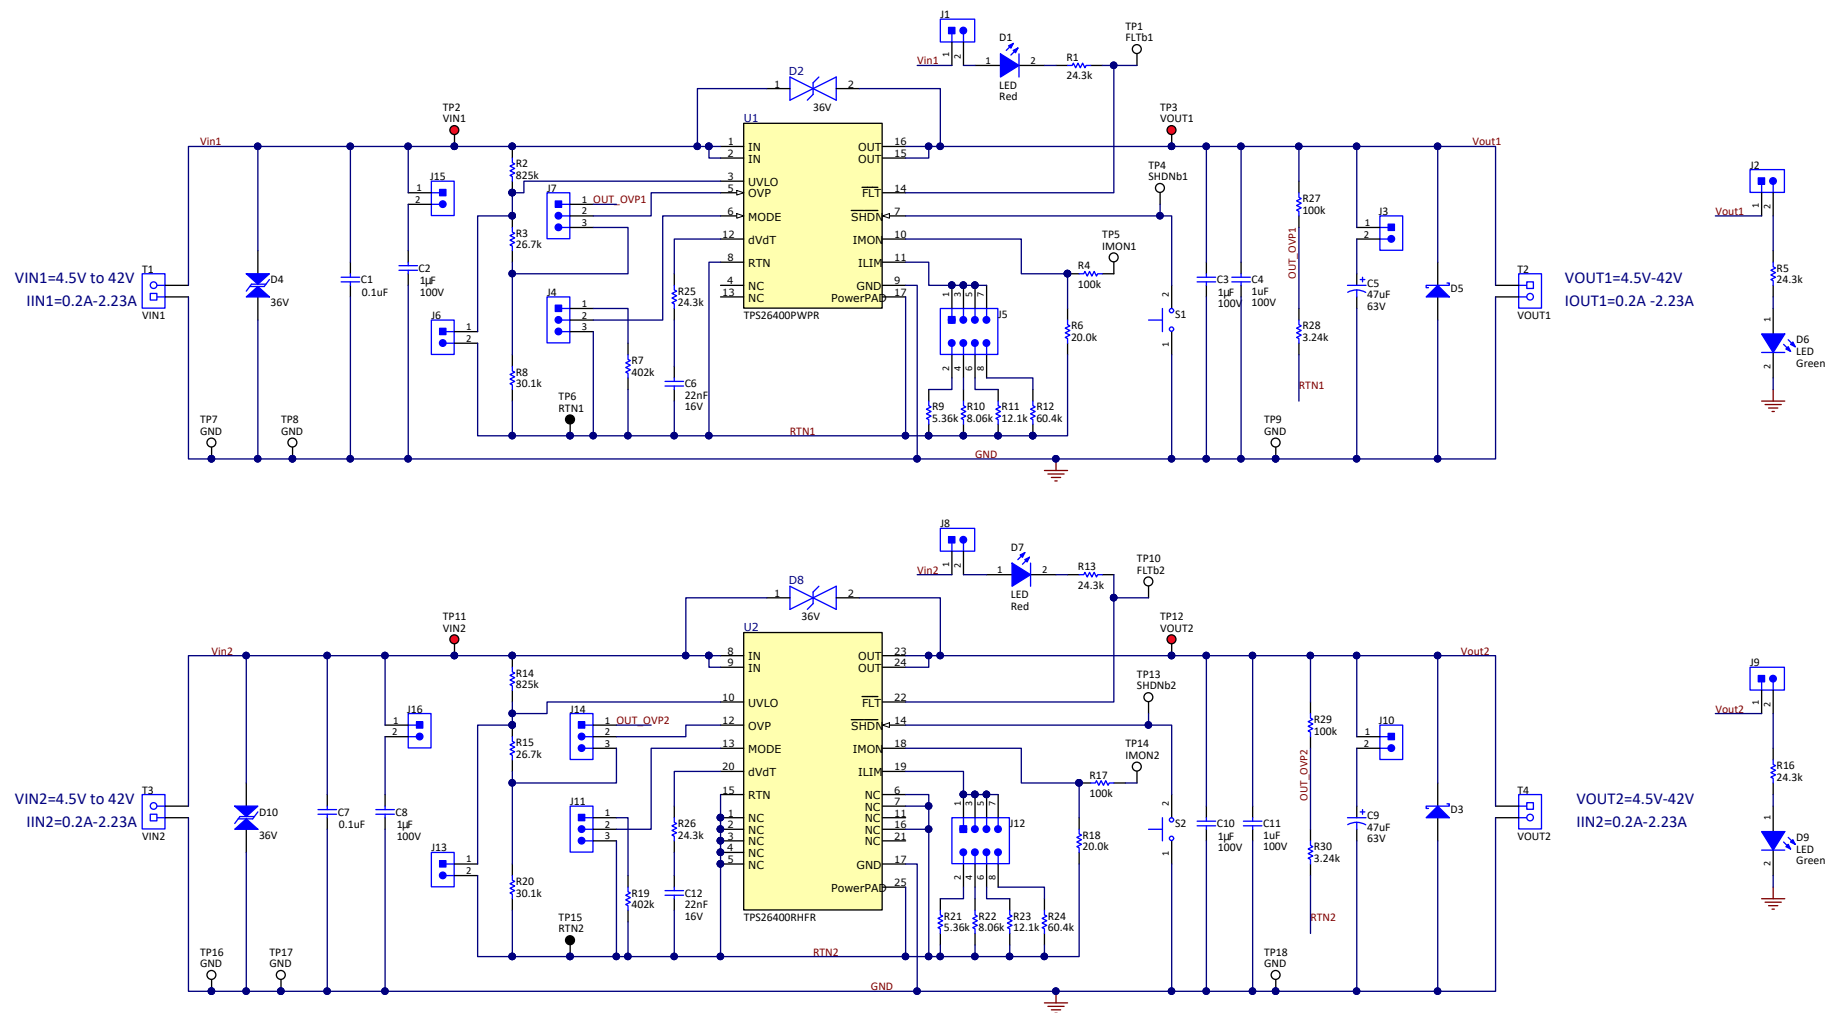
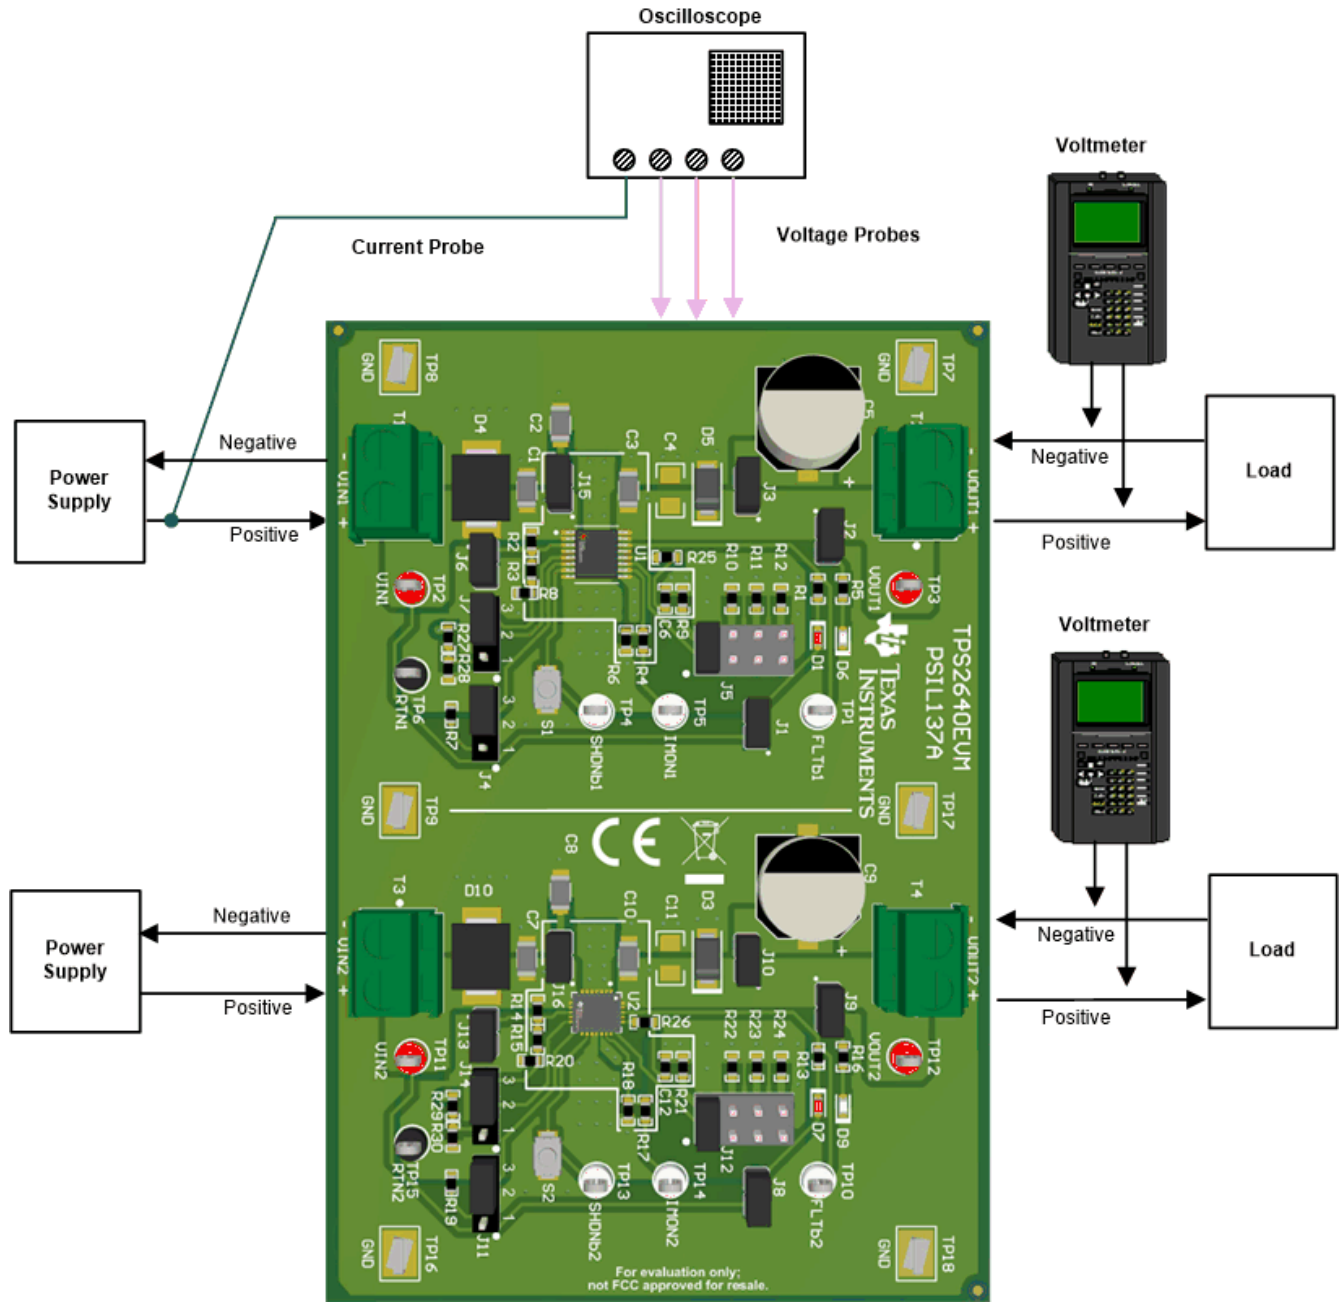

Figure 3-1. TPS2640EVM Schematic
Figure 4-1. EVM Test Setup
The TPS2640EVM enables full evaluation of the TPS2640 devices. The EVM supports HTSOP and QFN versions of the devices on two channels (CH1 and CH2, respectively). Input power is applied at T1 (CH1) and T3 (CH2) while T2 (CH1) and T4 (CH2) provide an output connection to the load. See the schematic in Figure 3-1 and the test setup in Figure 4-1.
Figure 3-1 illustrates the EVM schematic.
Figure 4-1 shows the typical test setup for the TPS2640EVM. Connect T1/T3 to the power supply and T2/T4 to the load.
3. Disable the power supply, load and hook up the TPS2640EVM assembly as shown in Figure 4-1.